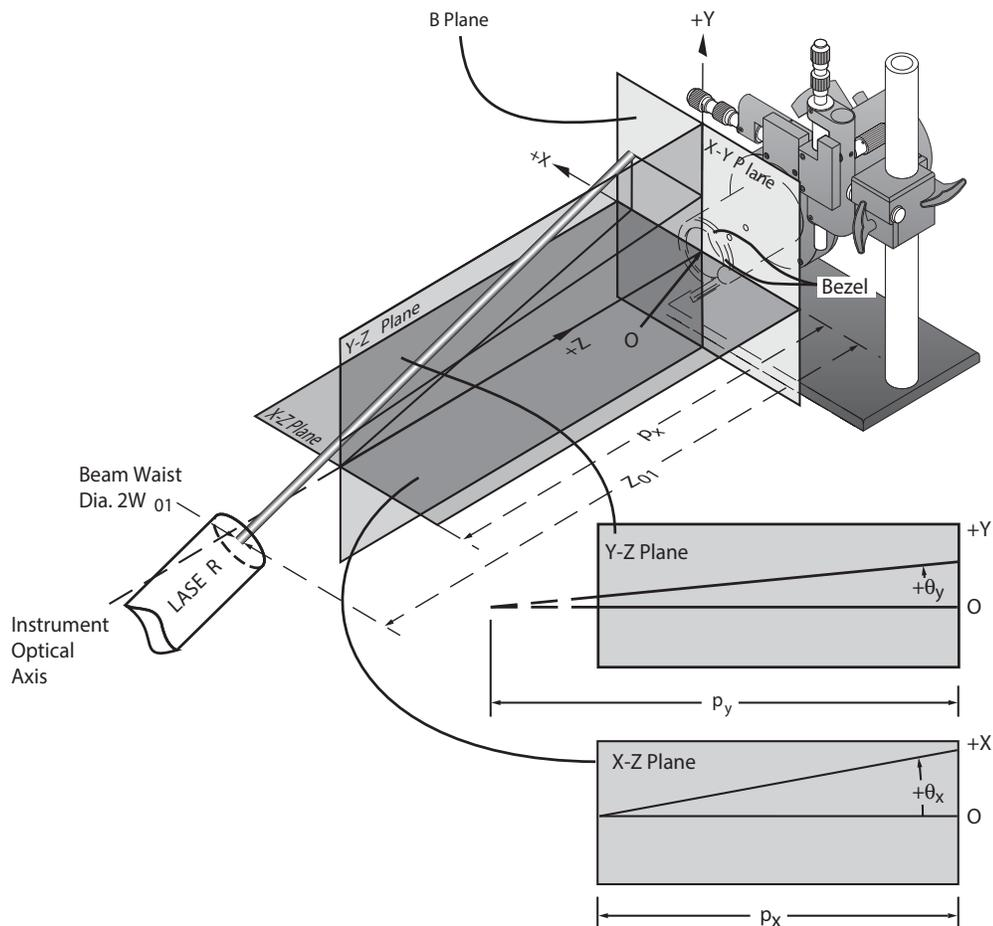

Figure 5-5. ModeMaster PC Coordinate System
The coordinate system used for the ModeMaster PC screens is shown in Figure 5-5 (p. 5-15). The origin (O) of the coordinate system is taken at the center of the input bezel plane B of the instrument, with the instrument optical axis as the Z-axis. Light is shown propagating from left to right (the standard optical textbook convention) in the +Z direction, so that beam waist locations  $Z_{01}$  on the instrument side of the bezel plane are positive, and locations back towards the laser are negative. A vertical beam displacement above the optical axis is taken as in the +Y direction. Then in order to have a right-handed coordinate system, a beam displacement in the +X direction away from the axis must be to the left when looking towards the input plane B of the instrument as shown. The circle and
**For the X and Y data shown on the data screen to agree with the planes shown in Figure 5-5, above, the ModeMaster PC scan head must be at the standard azimuth setting of 45°.**